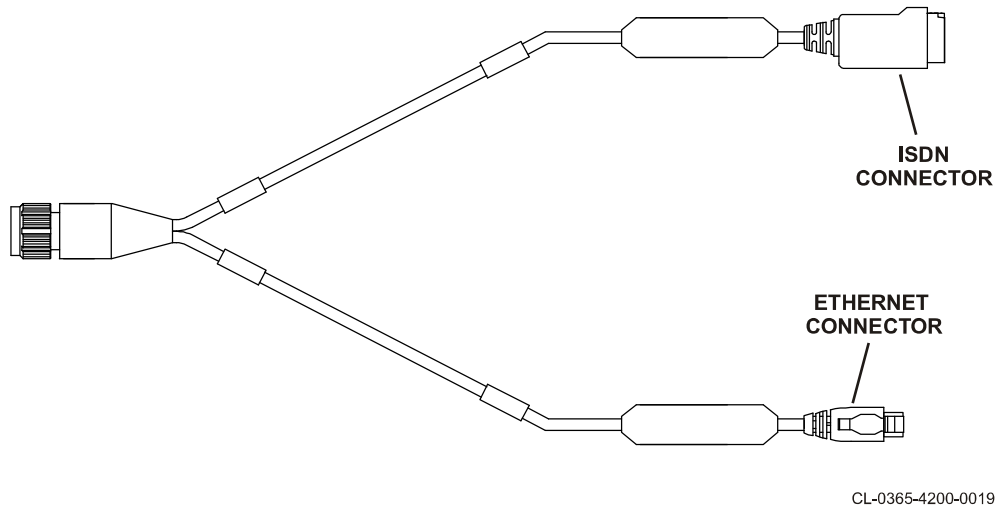

Figure 3-4. Standalone Ethernet and ISDN Cable, 12043-0834-A010 (Optional)
- See Figure 3-4 for Standalone Ethernet and ISDN Cable, 12043-0834-A010 (optional).
- See Figure 3-4 for Standalone Ethernet and ISDN Cable, 12043-0834-A010.